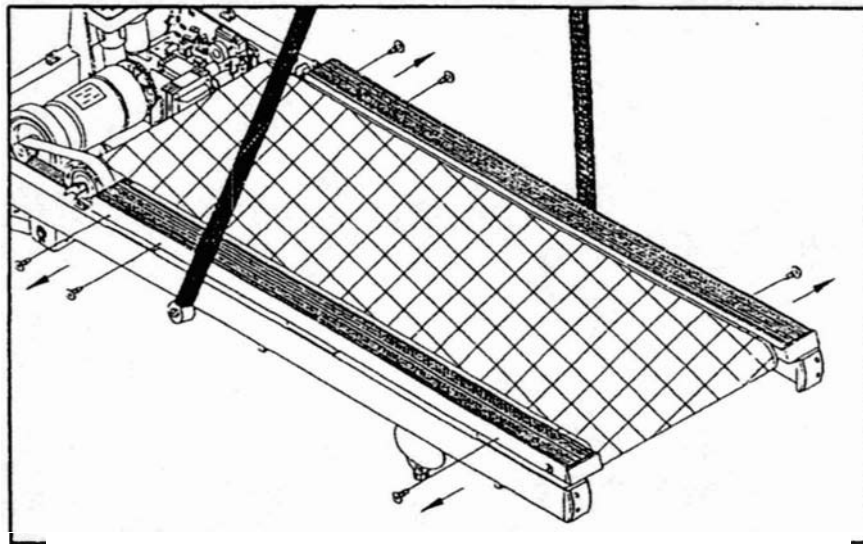

Fig.1
2. Remove all screws securing the staging platform. (see Fig.1)